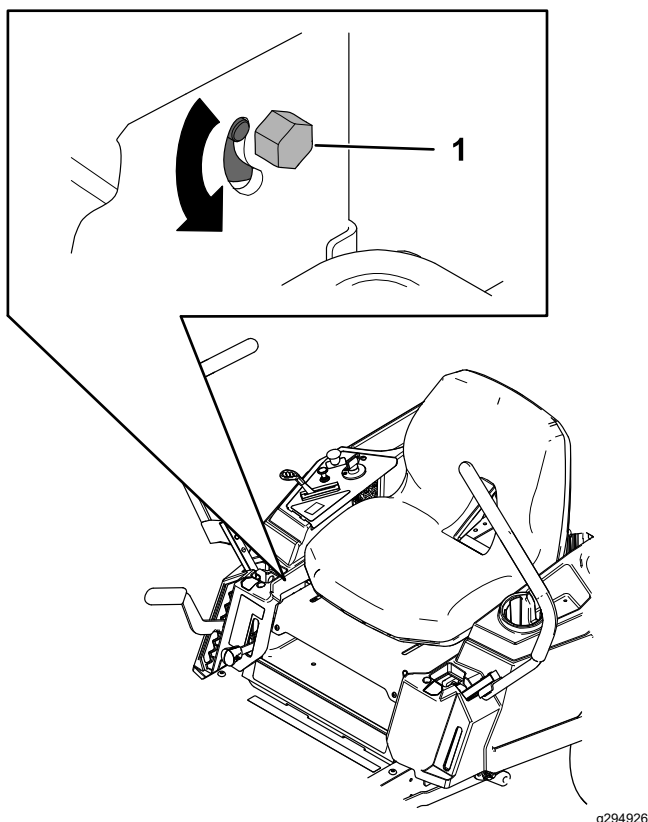

Figure 47
3. Locate the tracking-adjustment bolt near the motion-control lever on the particular side that needs adjusting (Figure 47).